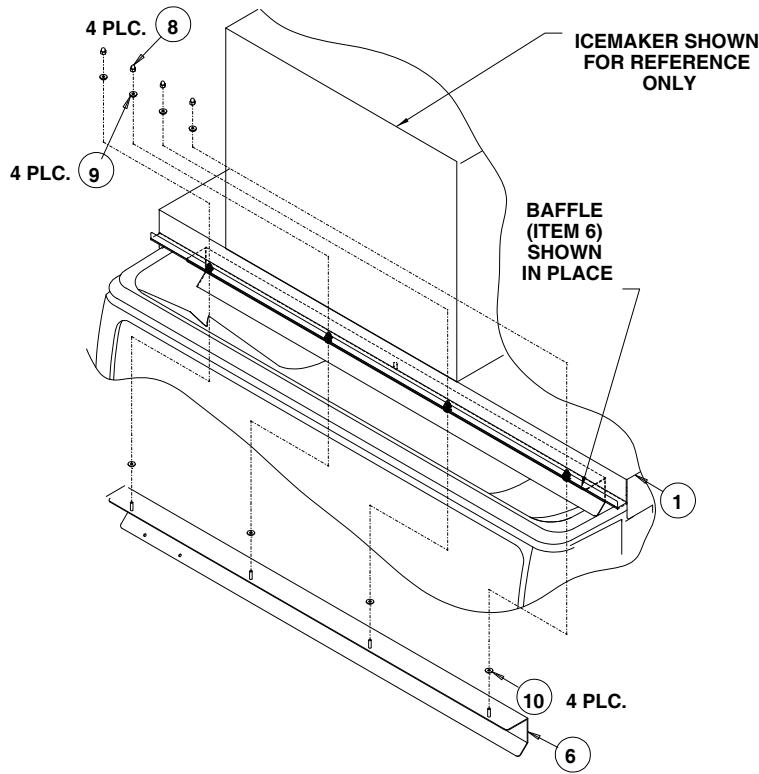

Figure 2. ED300 Baffle Kit
The dispenser must be secured with 3/8 X16 bolts (6) to the counter before installing the ice maker adapter kit. Refer to the installation manual and Figure 2 for the counter mounting template.
1. Remove the two (2) screws from each side of the dispenser cabinet and the plastic hopper covers (2) that were shipped with the unit.
2. Place the Adapter lid on the unit and use the four (4) screws that were removed to fasten the lid in place.
3. Install the ice baffle on the lid assembly as shown in Figure 2.